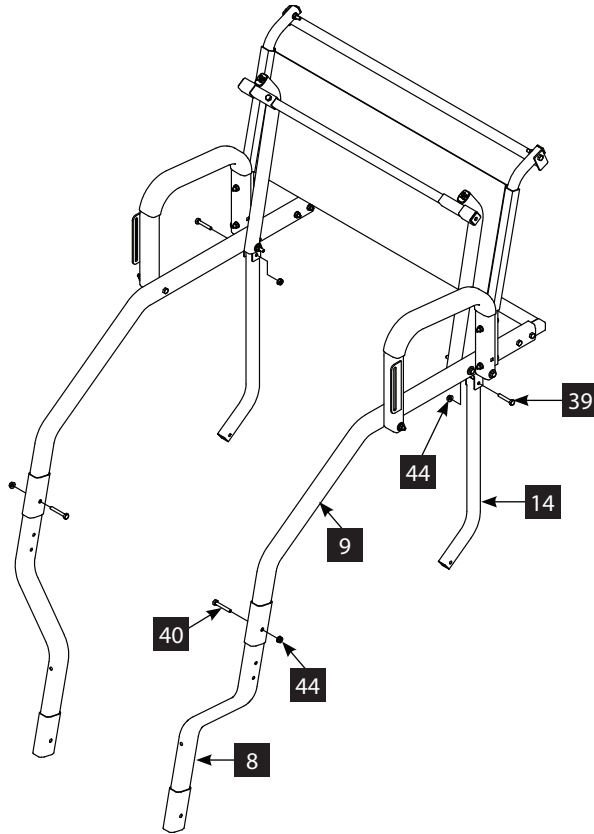

**FIGURE 6A**
9. With the TearTuff seat assembled, secure the back of the seat assembly (13) to each of the seat side supports (9), using a 1/4-20 x 3 IN (43) bolt, two yellow plastic washers (25), a plastic spacer (29) and one 1/4-20 nut (44). **SEE FIGURE 6 AND FIGURE 6A**